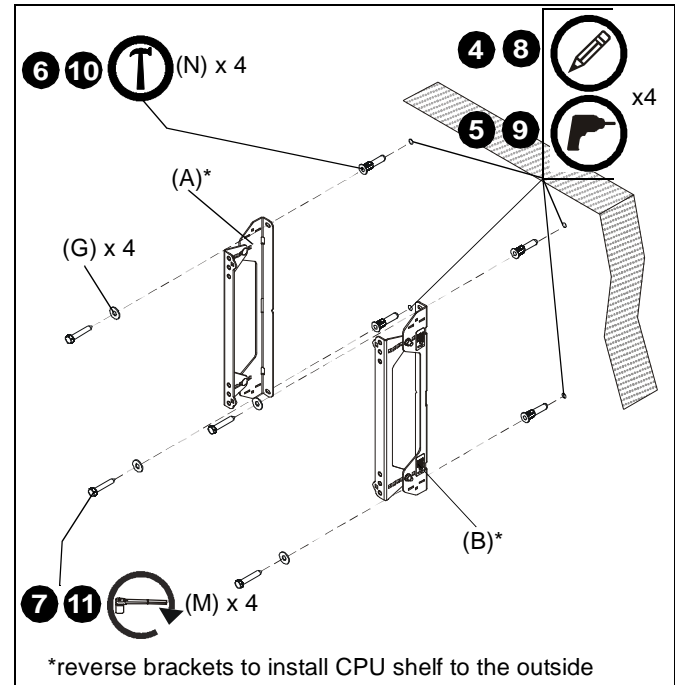

Figure 3
4. Using a level, mark the wall through both upper mounting slots. (See Figure 3)
5. Drill one 3/8" (9.5mm) pilot hole with a depth of 3 1/2" (88.9mm) at each marking. (See Figure 3)
6. Install a UX10 anchor (N) into each pilot hole using a hammer, making sure that the anchor is flush with the wall. (See Figure 3)
**NOTE:** If desired CPU location is off to the side of the display, reverse brackets (A and B) from how they are shown in Figure 3.
7. Use two 5/16 x 2-1/2" lag bolts (M) and two 5/16" flat washers (G) to attach top of brackets (A and B) to anchors in wall. (See Figure 3)
8. Mark the attachment points for the lower mounting slots. (See Figure 3)
9. Drill one 3/8" (9.5mm) pilot hole with a depth of 3 1/2" (88.9mm) for each mounting hole. (See Figure 3)
10. Install a UX10 anchor (N) into each pilot hole using a hammer.
11. Use two 5/16 x 2-1/2" lag bolts (M) and two 5/16" flat washers (G) to attach the brackets to the wall through the lower mounting holes. (See Figure 3)